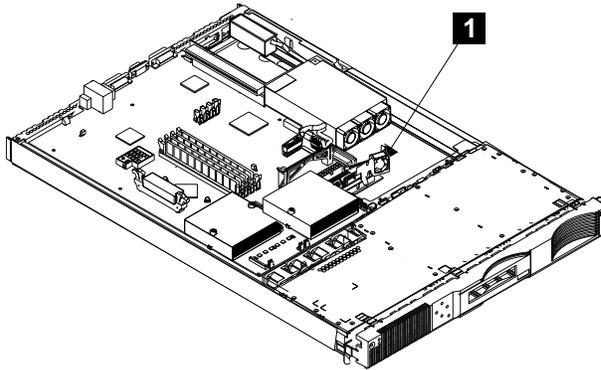

Figure 88. Removing a disk drive fan
4. Refer to Figure 88.
6. See Figure 88. Remove the entire fan assembly **1** by sliding the right-hand side of the disk drive fan forward. Then, pull the assembly away from the clip.